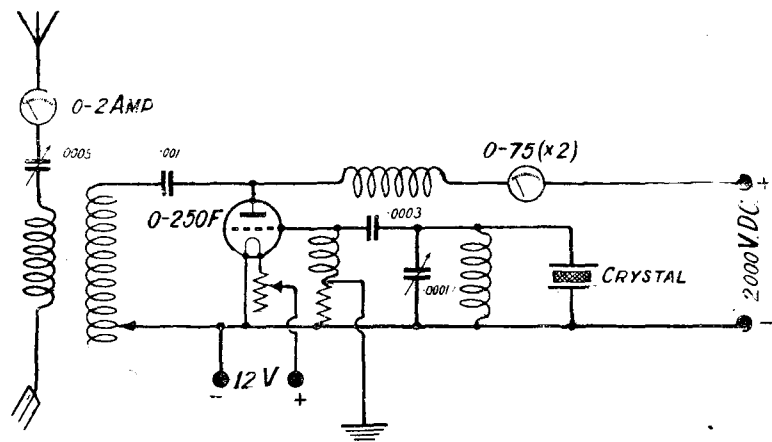

Fig. 4.—It is possible in such circuits as the above to work on a harmonic of the fundamental wavelength of the controlling crystal.
The second set, which is the main set at 5NN, embodies the principle suggested in alternative (2) and is shown theoretically in Fig. 4. Actually, the set is built up in a framework of white wood measuring 18in. high by 16in. wide and 16in. deep. The anode and grid inductances are built in the approved "low loss" style in order to reduce self-capacity.